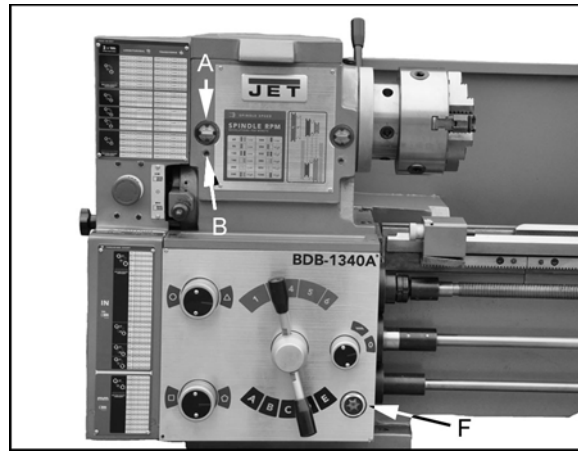
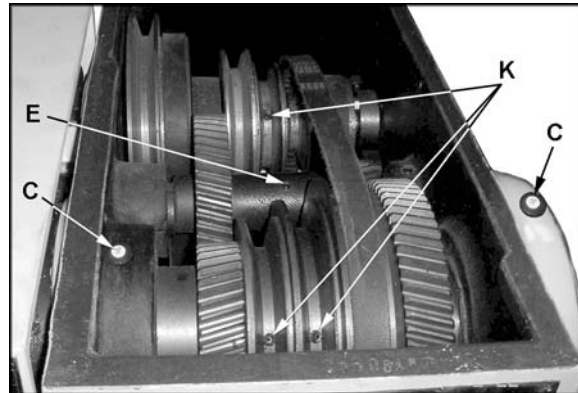
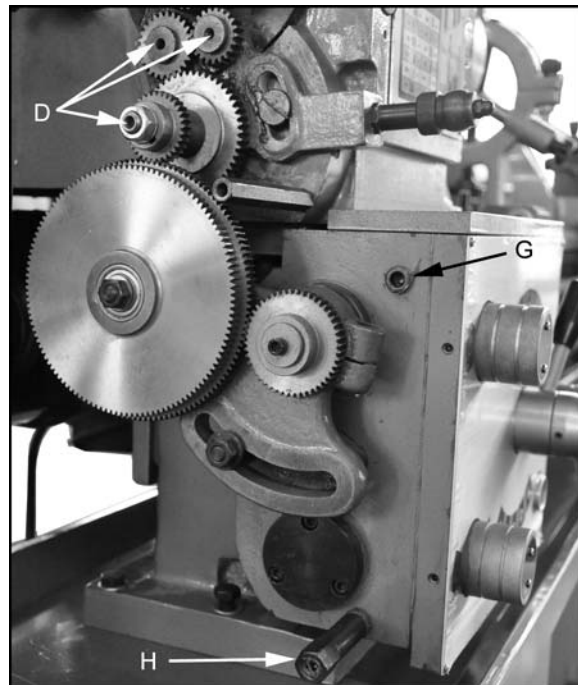

Figure 5
Figure 6
Figure 7
1. **Headstock** - Oil must be up to indicator mark in both oil sight glasses (A, Fig. 5). Top off with Mobil DTE® Oil Heavy Medium. The headstock should be drained and refilled after the first three months of operation. Then, change oil in the headstock annually.
Drain oil completely by removing drain plugs (B, Fig. 5). Also loosen the three set screws in the pulleys (K, Fig. 6) and shaft (E, Fig. 6) and drain the oil from these. When done, re-tighten the set screws (K,E) and re-insert the drain plugs (B). Refill by removing fill plugs (C, Fig. 6). Grease three fittings (D, Fig. 7) with Mobil 1® Synthetic Universal Grease daily.
2. **External Gears** - Coat all gears with a heavy, non-slinging grease, see Figure 7.
3. **Center Back Gear Shaft** - Remove the set screw on the shaft (E, Fig. 6) and oil with a couple of drops of Mobil DTE® Oil Heavy Medium once weekly.
4. **Quick Change Gearbox** - Oil must be up to indicator mark in oil sight glass (F, Fig. 5). Top off with Mobil DTE® Oil Heavy Medium. Fill by removing plug (G, Fig. 7). Drain oil by removing drain plug (H, Fig. 7) and refill after the first month of operation. Then, change oil in the gearbox annually.